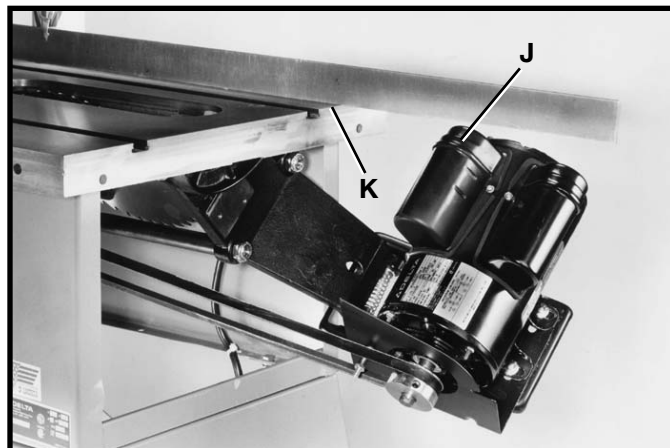

Fig. 24
8. **⚠ WARNING: IMMEDIATELY AFTER ASSEMBLING THE BELT, RAISE THE SAW BLADE TO ITS MAXIMUM HEIGHT AND TILT THE SAW BLADE TO 45 DEGREES. CHECK TO SEE IF THE MOTOR (J) FIG. 24 IS BELOW THE TOP OF THE TABLE SURFACE (K). IF THE MOTOR (J) IS ABOVE THE TOP OF THE TABLE SURFACE, MOVE THE MOTOR TO THE LEFT UNTIL THE END BELL (J) OF THE MOTOR IS BELOW THE TOP OF THE TABLE SURFACE. THEN RE-ALIGN THE MOTOR PULLEY TO THE ARBOR PULLEY.**